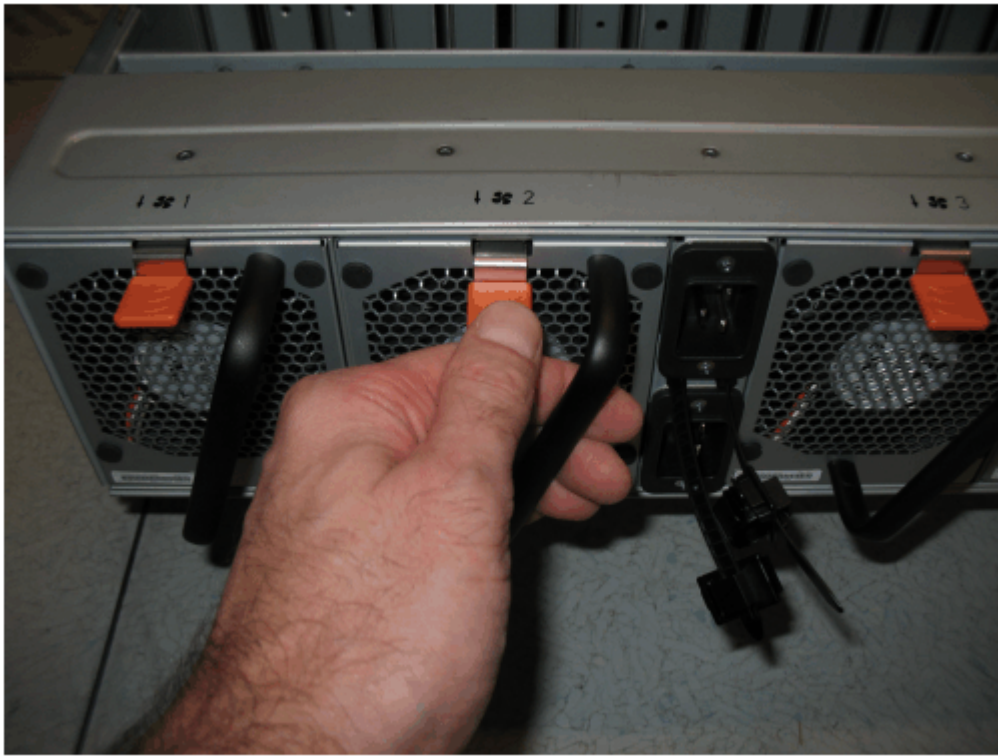

Figure 146. Fan module release tab
2. Press the release tab on the fan module, as Figure 146 on page 197 shows.